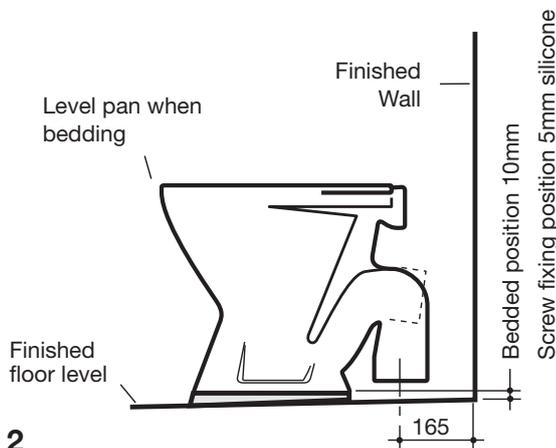

Fig. 2
4. Position pan and connect with pan connector then level pan into bedding mixture, so that the back of the foot of the pan is approximately 10mm above the finished floor as detailed in Figure 2. It is recommended that wedges are used to support the foot of the pan during the positioning.